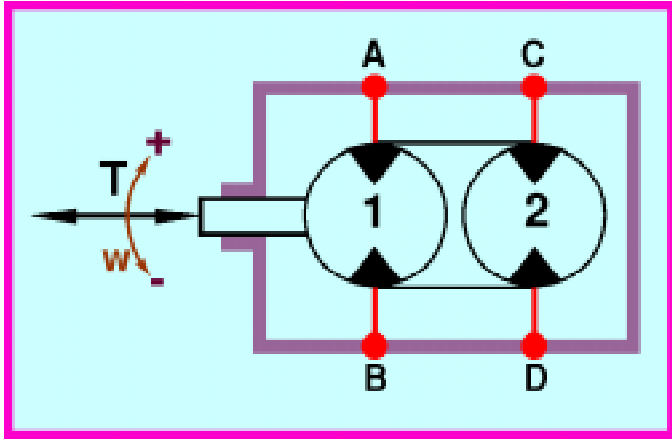

Figure -2 .
In Figure -1 , the force  $F$  acts on both actuators and by causing actuator 1 to move (-) direction while actuator 2 to (+) direction at same speed , the total resultant speed will be zero (0) at constant force  $F$ . Same will be achieved in case of rotary motion as it can be seen in Figure -2 below .
In Figure -2 , the torque  $T$  acts on both hydraulic motors and by causing motor 1 to run CW (+) and motor 2 CCW (-) at same speed , the total resultant speed at constant torque will be zero (0) . The main advantage of using such a differential drive is by having the ability to start linear and / or rotary motion without slippage . Remembering that torque  $T$  torque =  $P$  power /  $n$  speed and when speed is zero , we need infinite amount of force or torque to start moving a load using traditional equation compared to the differential drive where we get constant force and / or torque at zero output speed.